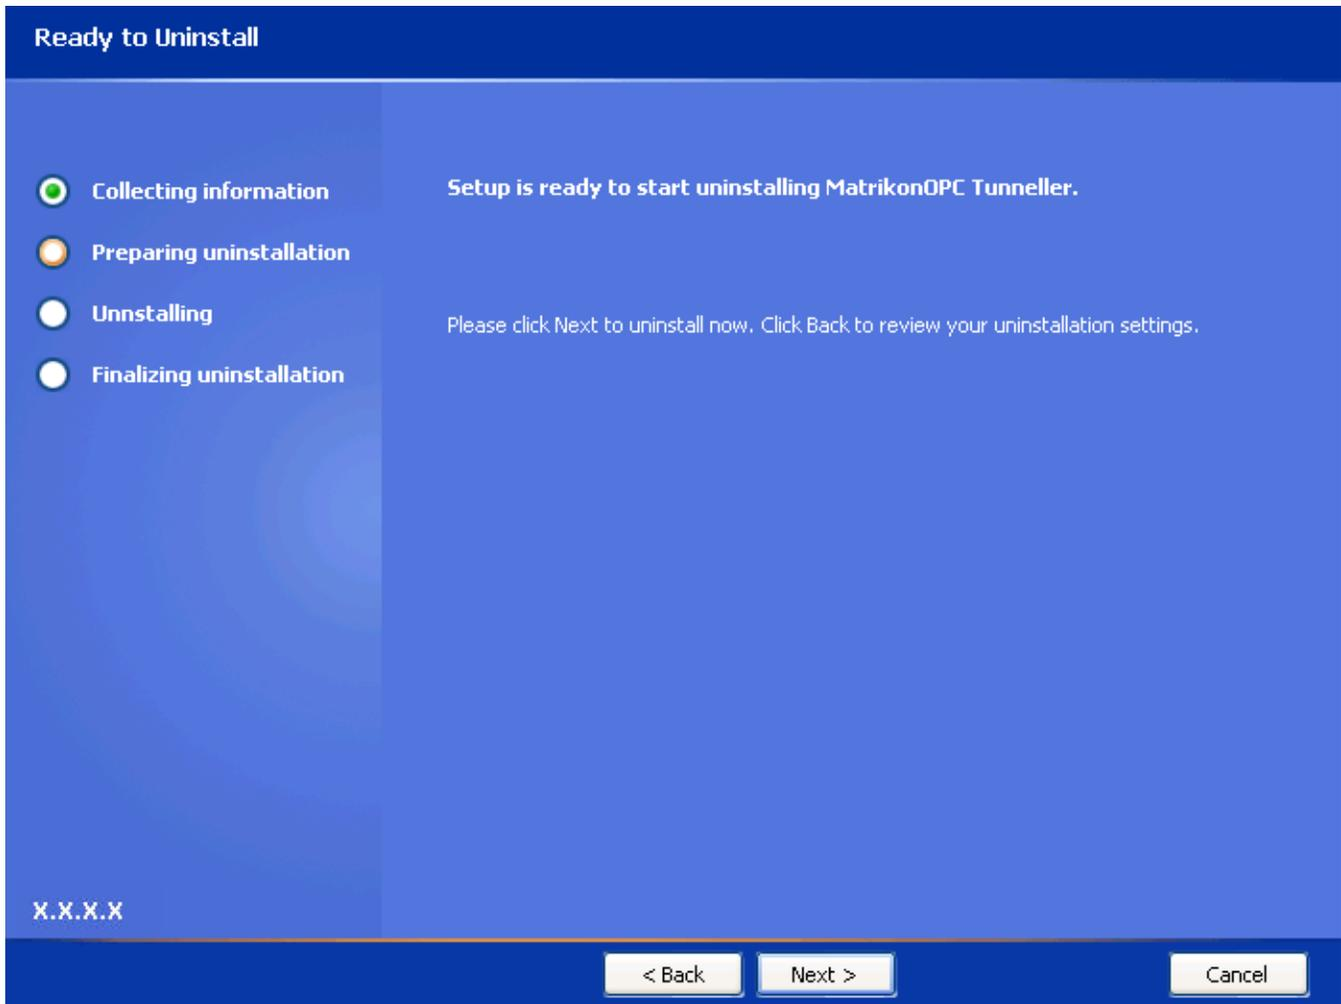

Figure 36 - Ready to Uninstall Screen
9. The **Ready to Uninstall** screen (Figure 36) is displayed.